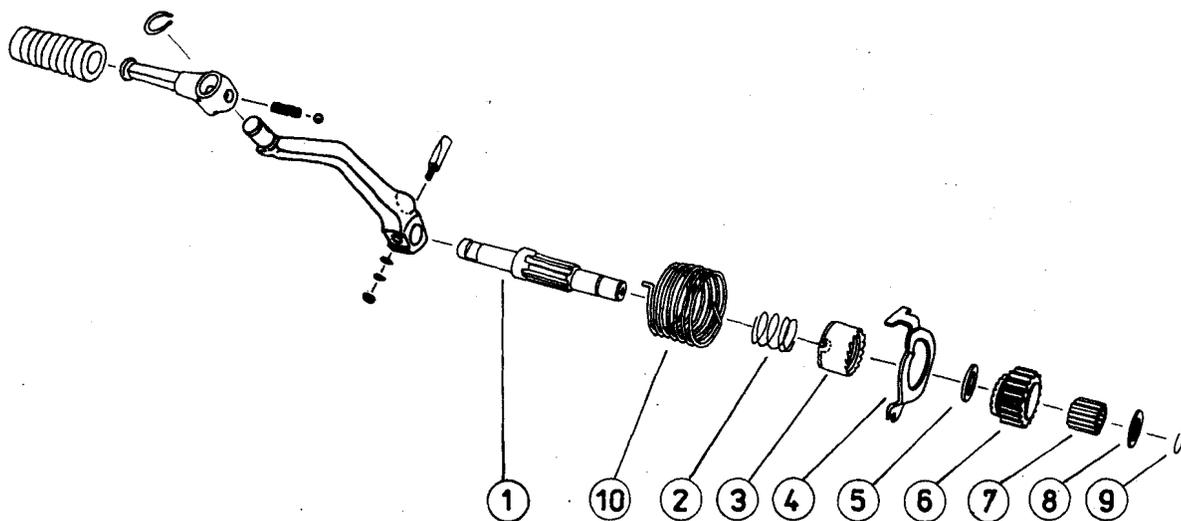
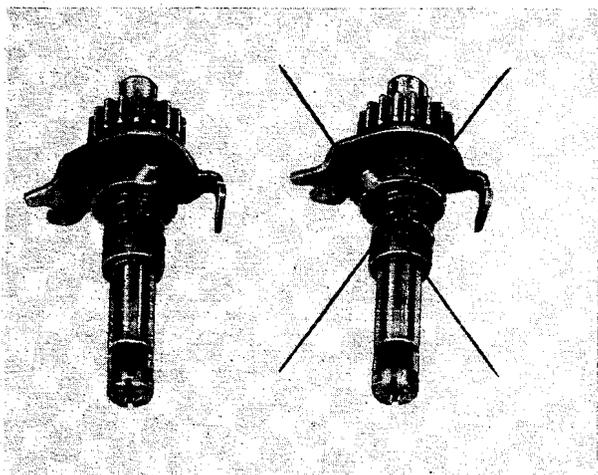

Fig. 79. Individual parts of the kick-starter sub-assembly
Fig. 80. Correct mounting of the dog (left)
Mount the kick-starter shaft in the order of numbers demonstrated in Fig. 79. Fit the dog (3) in the manner shown on the left of Fig. 80. The right part of Fig. 80 shows a kick-starter shaft mounted in the wrong manner.